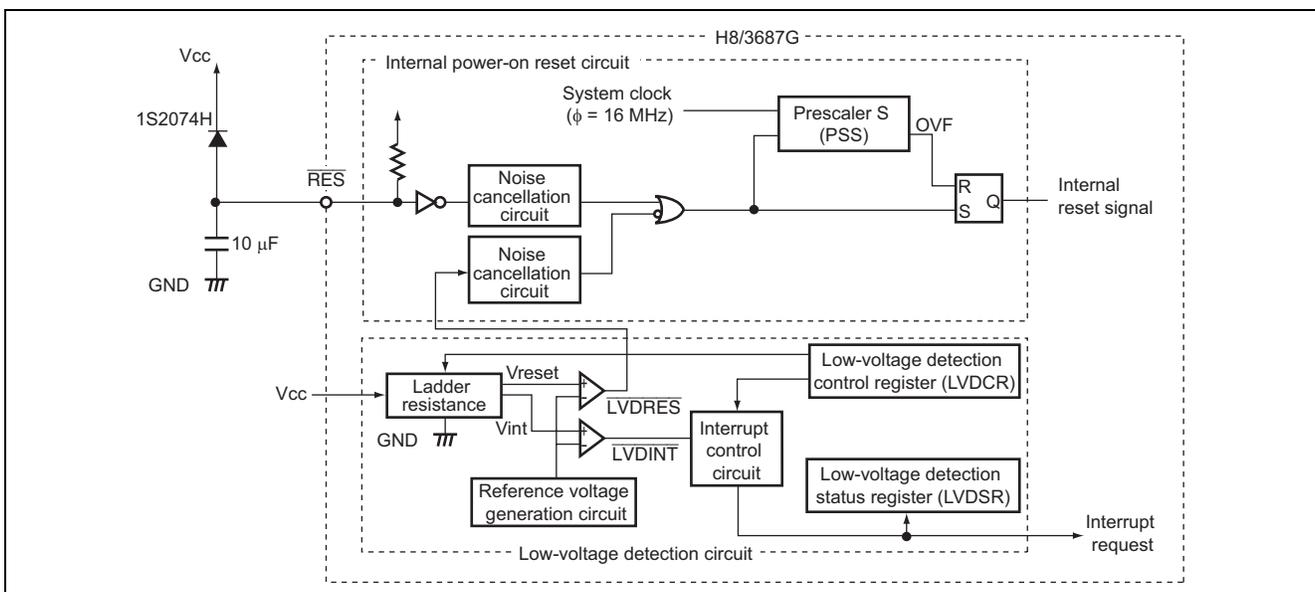

**Figure 1.1 Connection example for this task**
7. A connection example for this task is shown in figure 1.1.